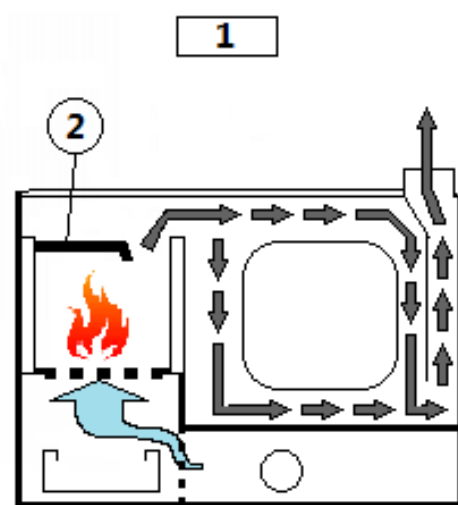

Fig. 32 - Heating-oven baking (high temperature)
LEGEND	Fig. 32 page 29
- Verify the internal deflector is in right positions (see **Fig. 32 page 29**). In this position the smokes turn is better exploited for the oven heating, and mean while it will be lower the thermal axchange to boiler's water and to cooking plate.